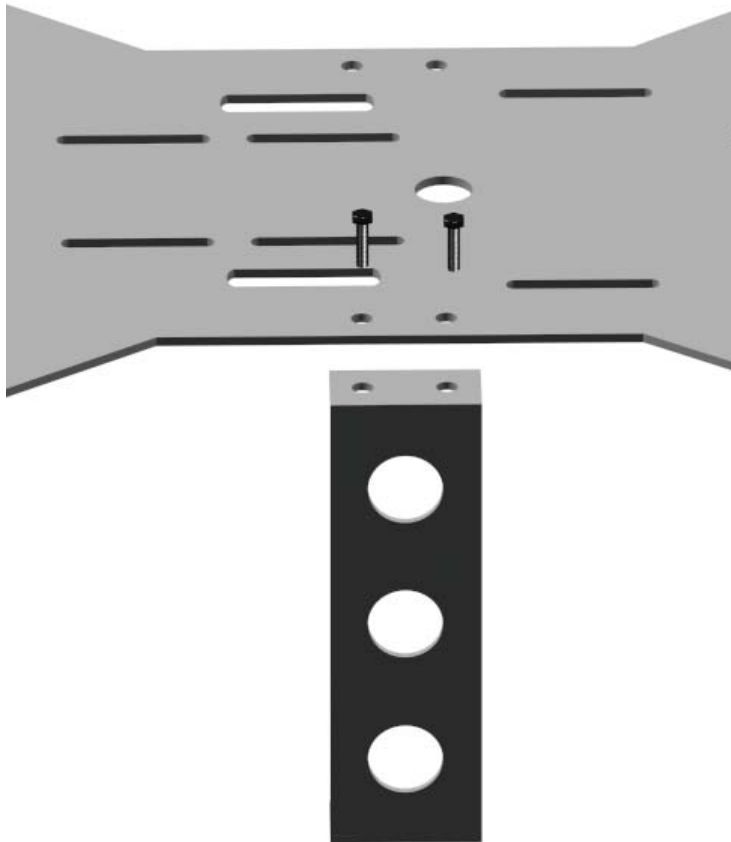

Figure 29
- Using (2) 5/16" #4 screws, install the side braces to the upper deck as shown in Figure 29.